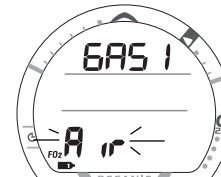

Fig. 21 - Set FO2 GAS 1 (AIR)
- Depressing and holding the S button while the Set Point is flashing will scroll the Set Points from AIR (Fig. 21) to 21 through 50% in 1% increments, at a rate of 8 per second.